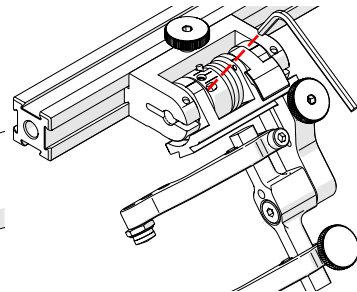

Fig. 208 - Unlatched position
3. Insert the short arm of a 3 mm hex wrench into the 3 mm slot (Fig. 208).